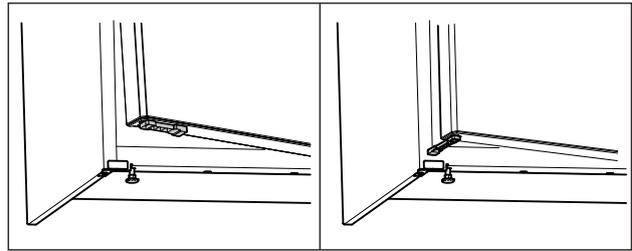

Fig. 67 \*
- ▶ Turn door opening limiter by 90°. (see Fig. 67) \*